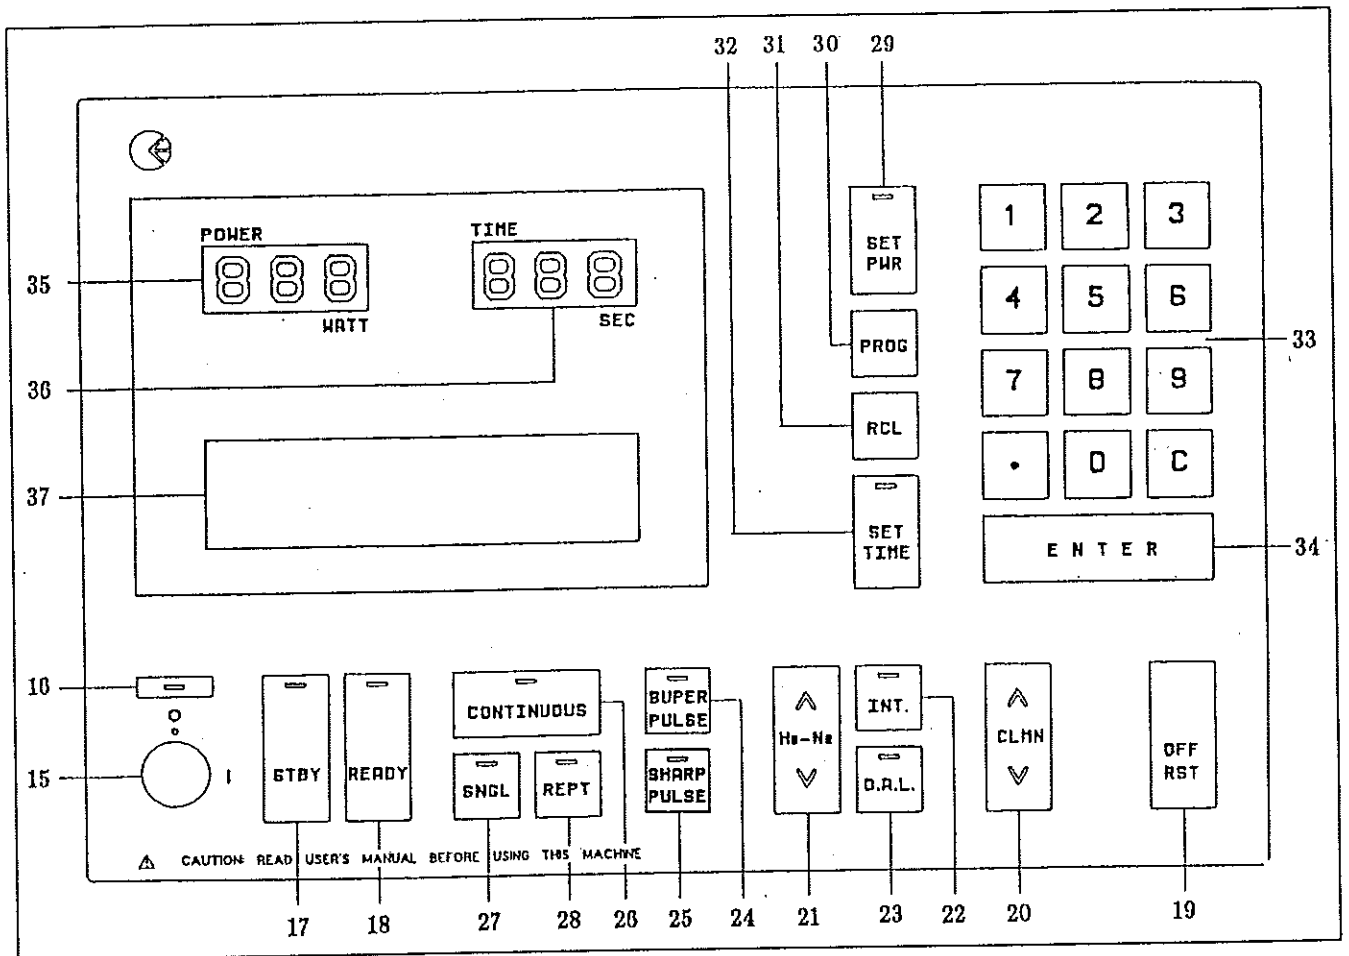

Figure 4-4. Control Panel
Refer to Figure 4-4 for items 15 through 37.